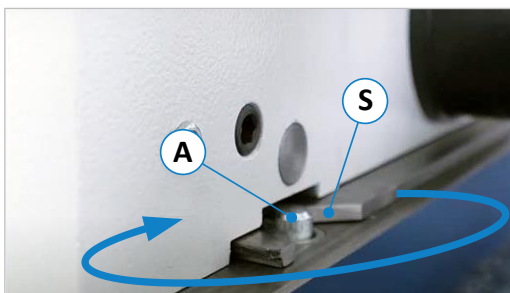

Figure 56: Lock and engage
- To ensure parallelism with the machine table, turn the fence slightly until the centring pins (Z) on the underside of the fence (hidden in the view) engage in the holes (B) on the machine table (see ⇒ Figure 56). A slight click can be heard.